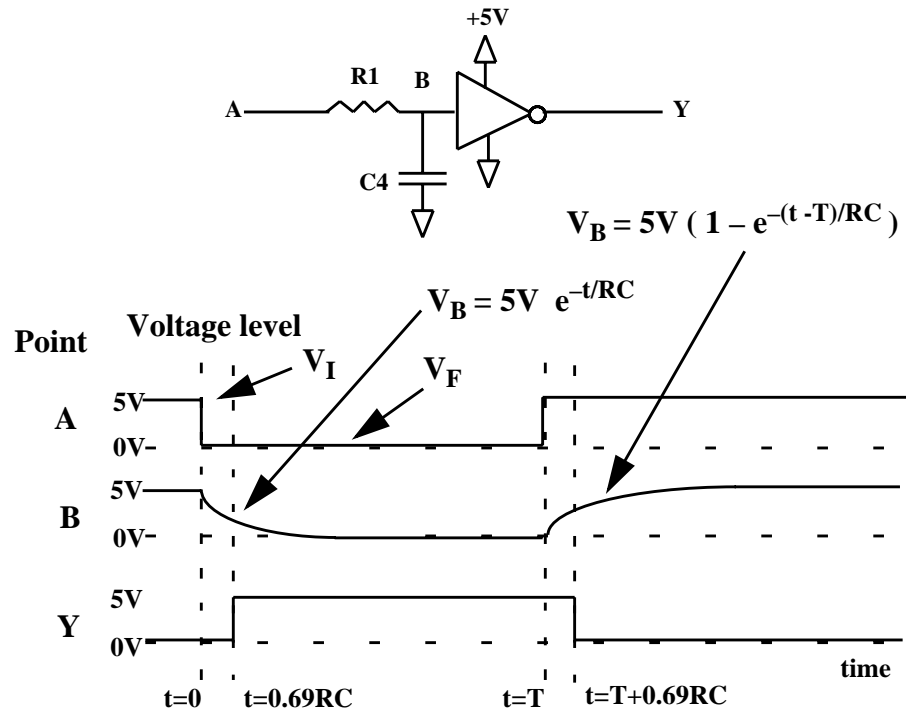

Figure 8.3 A pulse delay circuit constructed using an inverter, a resistor and a capacitor.
Consider the circuit shown in Fig. 8.3. In addition to a resistor (R) and a capacitor (C), this circuit uses an inverter to amplify the output of the RC circuit (node B) back up to a logic signal. In this case we will only consider "ideal" inverters. The voltage at point B in this circuit, for the case when the input is a sudden change in voltage from one level (called the initial voltage) to another level (called the final voltage) at time $t=0$, can be represented by the fol-
that are consistent with the inverter's characteristic. Next consider how the circuit will evolve. As long as the voltage at point A remains below 2.5V, then point C will stay at ground. In this case we have an R in series with a C to ground just as we did in Fig. 8.3. The solution for the voltage at point A follows from that derivation and is:
2. Construct the simple pulse delay circuit shown in Fig. 8.3. Adjust your function generator to output a 0V-5V square wave at a frequency of 50 Hz. Note, you will need to use the square wave mode and to add a DC offset of 2.5V. First power up your circuit and then connect the function generator. Connect the scope channel 1 to point A and verify that you have the desired square wave. Trigger the scope on channel 1. Now look at point B with channel 2 of the scope. Does it match the wave form in Fig. 8.3? Finally, move channel 2 to look at the output, node C. Is there a delay?